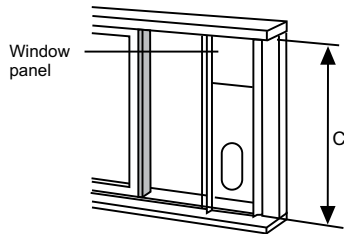

Fig.13
2. Attach the window slider kit to the window stool. Adjust the length of the window slider kit according to the width of window, shorten the adjustable window kit if the width of window is less than 26.5" (67.5 cm). Open the window sash and place the window slider kit on the window stool. See Fig.13.